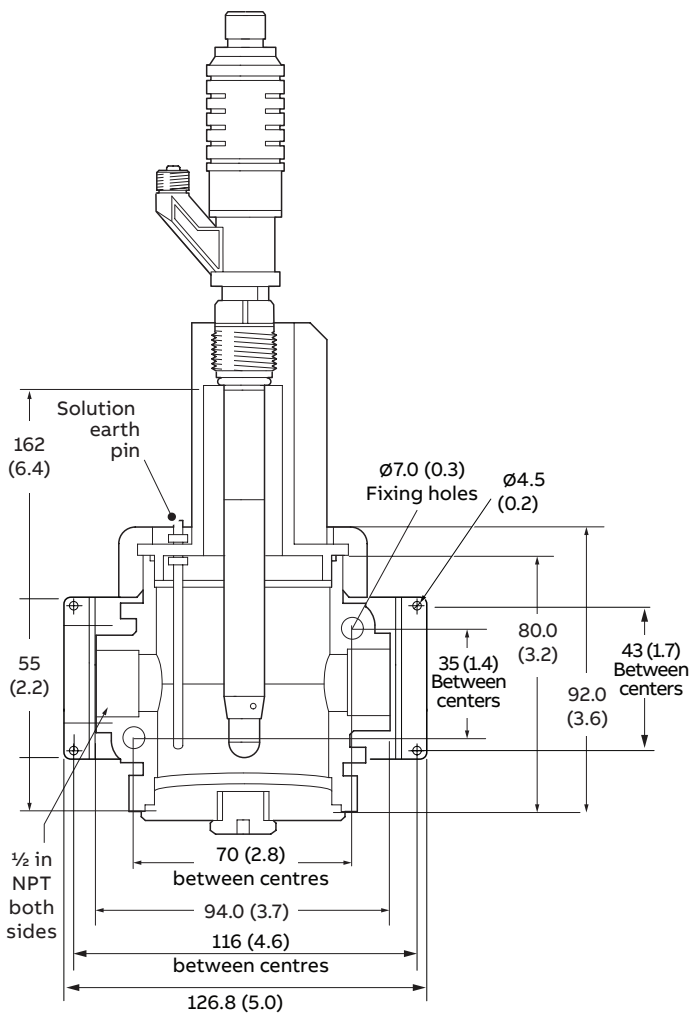

Figure 3 Flow chamber dimensions
- 1 Insert sensor (A) into flow chamber (B) and screw into place until hand-tight, ensuring to orientate the side arm (E) towards the reservoir.
- 2 Make process connections both sides (C) and (D) of flow chamber (B) using  $\frac{1}{2}$  in NPT connectors (not supplied).
- 3 If process is below  $10 \mu\text{S}$  ground the solution earth pin – see Figure 3.